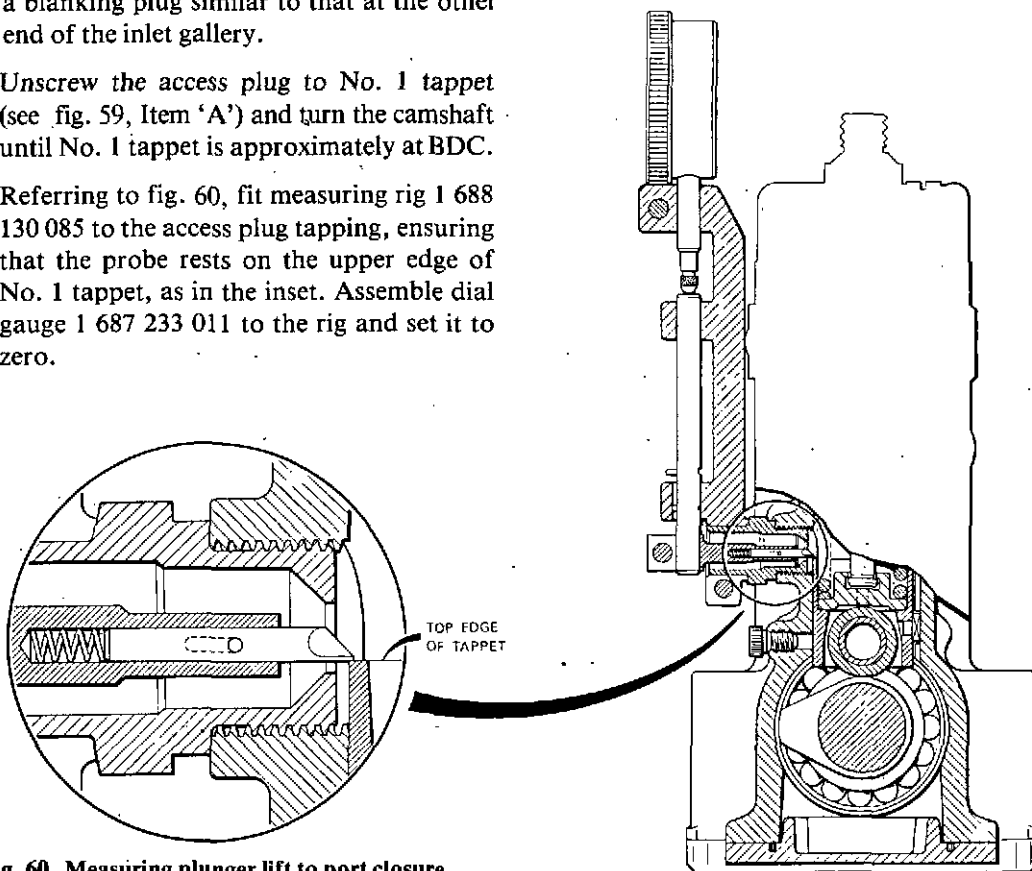

Fig. 60 Measuring plunger lift to port closure
- (iii) Referring to fig. 60, fit measuring rig 1 688 130 085 to the access plug tapping, ensuring that the probe rests on the upper edge of No. 1 tappet, as in the inset. Assemble dial gauge 1 687 233 011 to the rig and set it to zero.